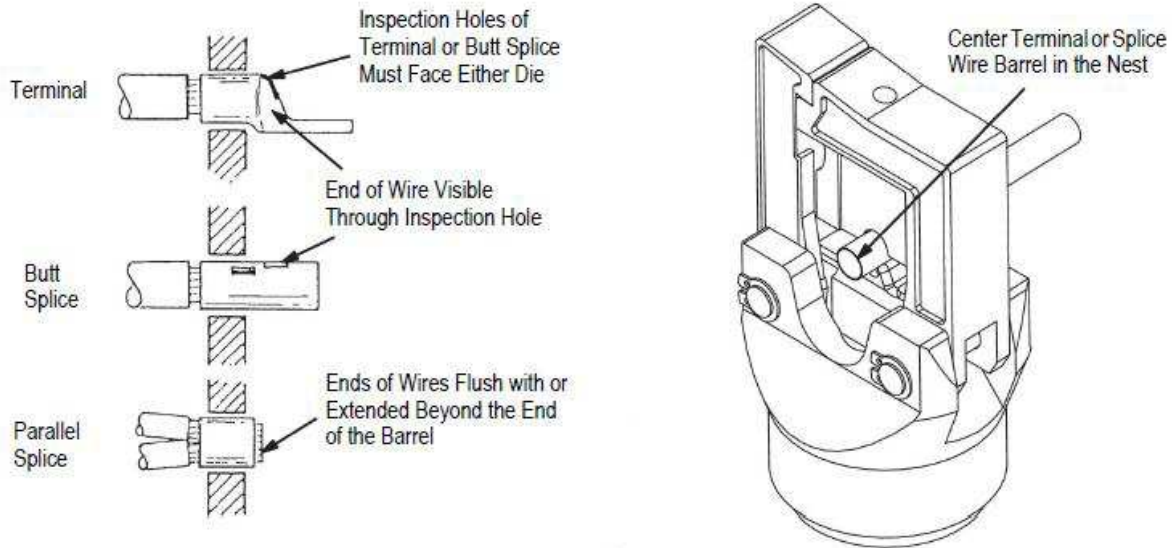

Figure 3
3. Center terminal or splice in the nest as shown in Figure 3. For best results, when brazed seam on terminal or splice is visible, position seam toward indenter.